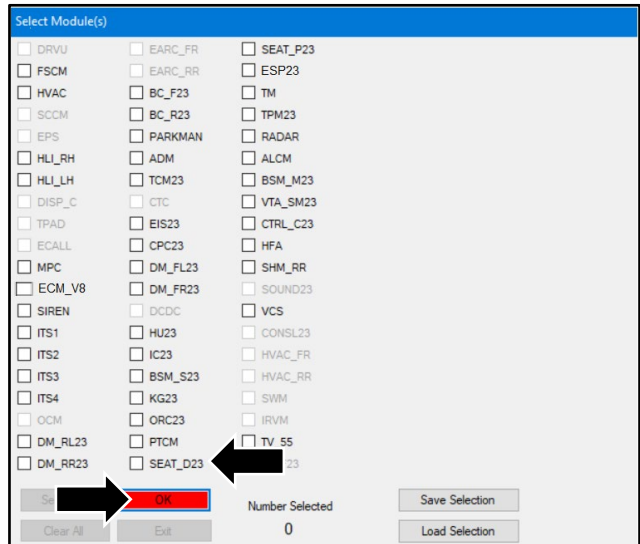

Figure 8
12. Select the "SEAT\_D23" module then click "OK" (refer to Figure 8).